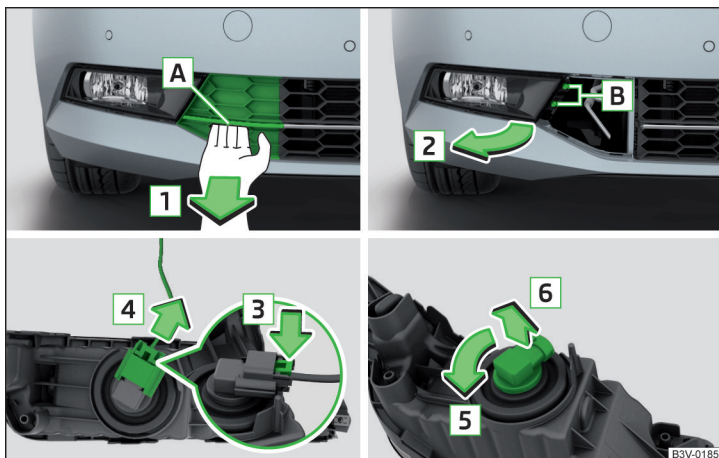

Fig. 365 Remove the number plate light / replace the bulb
- Insert your finger in the hole **A** and remove the grille by pulling in direction of arrow **1** » Fig. 365.
- Replace the fog light by inserting it in the opposite direction of the arrow **2** » Fig. 365 and tighten.